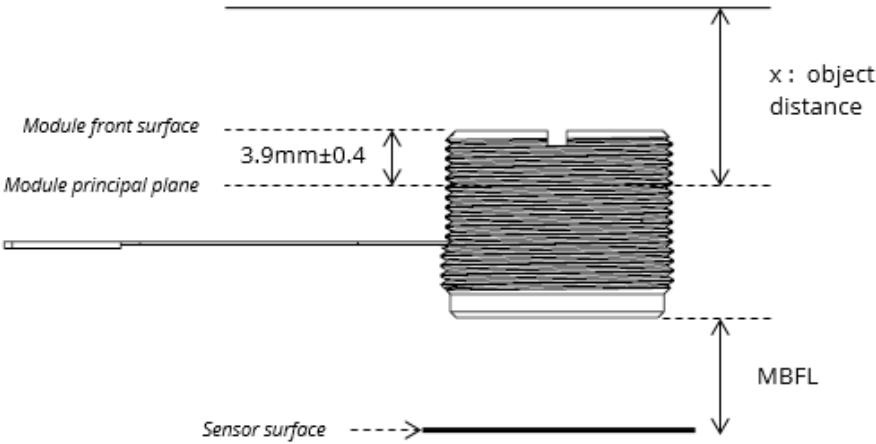

Figure 3: Definition of x and MBFL
- (1) For more information on the behavior of the A-25H0 lens with voltage, please refer to the A-25H TEDS.
- (2) For a sensor size of 7.4 mm diagonal (1/2.4”).
- (3) For shorter focusing distances, see “Module Setting Recommendations”.
- (4) Refer to figure 3 on page 4